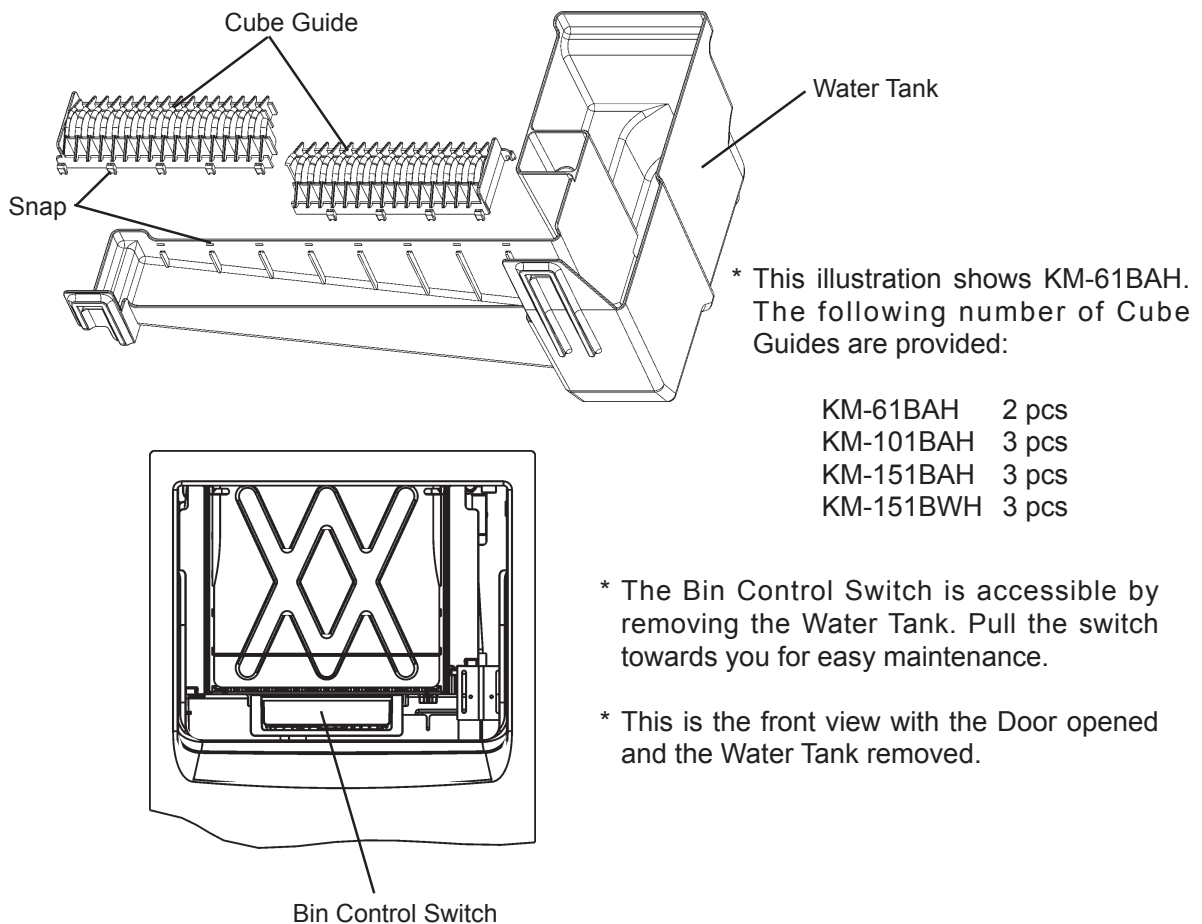

Fig. 33
- 14) Pull the Cube Guides (quantity varies depending on model) upward to remove them from the Water Tank. They are snapped in place. See Fig. 33. Refer to “V. 20. CUBE GUIDE” for details.